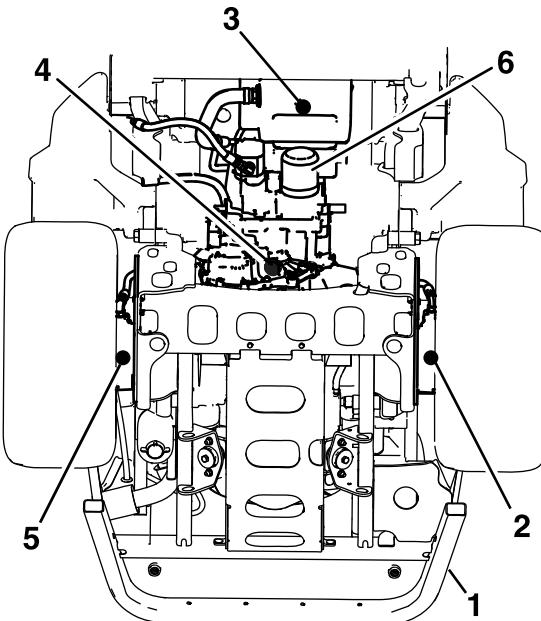

Figure 71
- Place a large drain pan under the hydraulic reservoir, transmission case, and the left and right wheel motors (Figure 71).
- Remove the drain plugs from each area and allow the hydraulic fluid to drain (Figure 71).
6. Clean the area around the hydraulic-fluid filter and remove the filter (Figure 71).